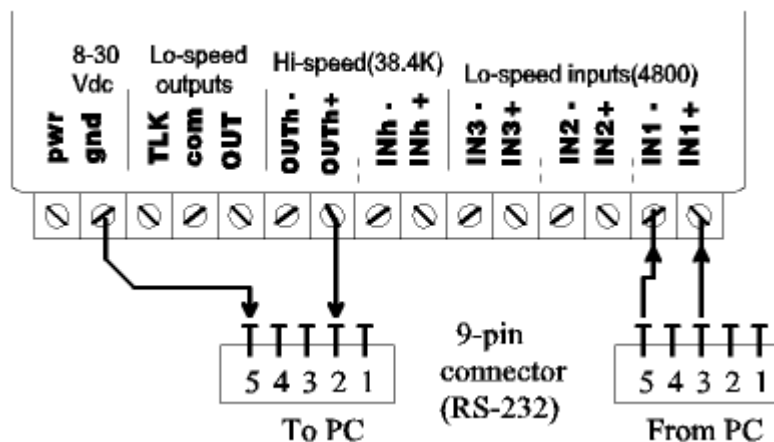

Figure 2. Connecting Single-ended Devices
- Figure 2 - Typical Installation
Always connect the "+" terminal of each talker to the corresponding "+" or "A" terminal of each listener. Likewise, connect the "-" terminal of each talker to the corresponding "-" or "B" terminal of each listener. In some cases a device will not have "+/-" or "A/B" connections, but rather only a "Data in" or "Data out" which is referenced to ground. These are known as "single-ended" devices. An example of connecting a single-ended signal (e.g., RS-232) to an AM43 input is shown in Figure 2.
differential RS-422. It can, however, drive an RS-232 listener, such as a PC, as shown in Figure 2. The baud rate of this output is set to 38,400 per the NMEA 0183-HS (Hi-Speed) standard but can be changed (see Appendix A).
Typical Installation. A typical AM43 installation with a computer connected to the USB interface might resemble Figure 2. In this example, a computer is present to collect all the data from onboard instruments and also to send steering commands to an autopilot and send waypoints to the GPS. The GPS provides position information while the autopilot provides heading. Any other instruments, such as a chartplotter, may obtain the combined data from the OUT terminal. The hi-speed interfaces (INh, OUTh) are for AIS, Radars and other equipment operating at 38.4K baud.